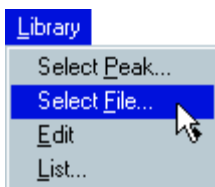

Fig. 28A
2.1 To begin, create a library which includes only the nuclides that we are interested in reporting for our analysis. From the main MCA window in GammaVision choose **Library, Select File** (Fig. 28A).